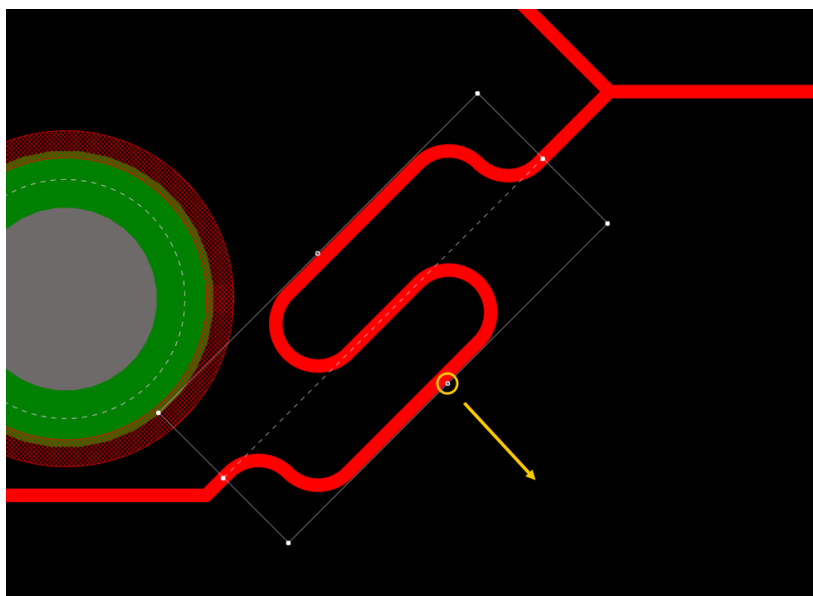

Figure 31. Adjusting the bounding box of the Length Tune
81. Once selected, you will see the vertex points, as shown in Figure 31.